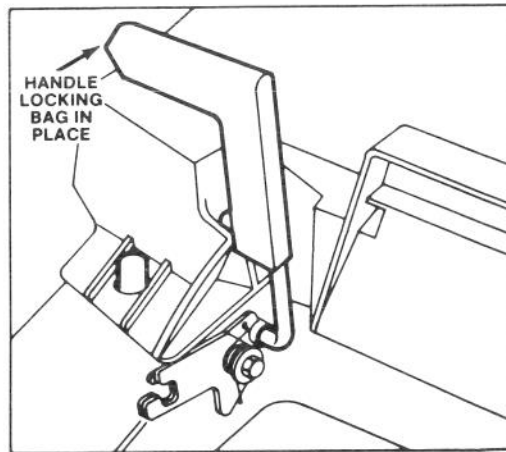

Figure 10
4. Pull chute door handle forward until pin clears bag catch and move handle rearward until pin locks in bag notch (Fig. 10). Chute door in mower housing is now open. It may be necessary to push down on top right of bag door to release handle locking pin from catch.